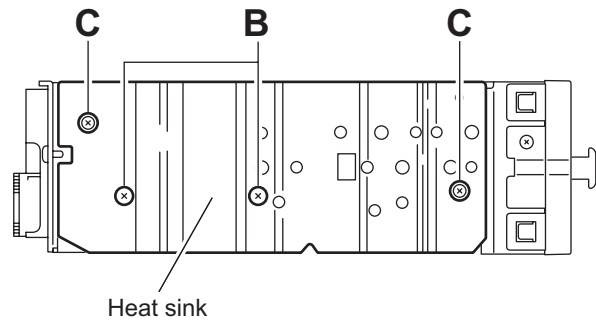

Fig.4
2.1.4 Removing the heat sink (See Fig.4)